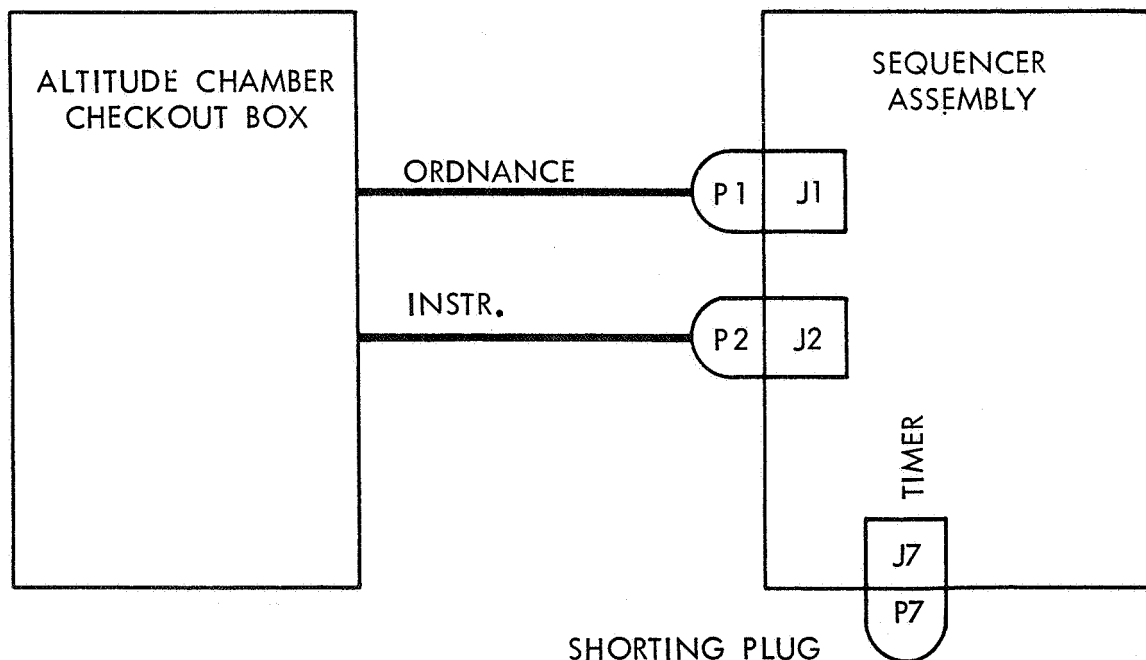

Figure 2-3. Vacuum-Chamber Test Setup
- a. Connect sequencer assembly to altitude-chamber checkout box (GSFC drawing number GAZ-12-178) as shown in Figure 2-3.